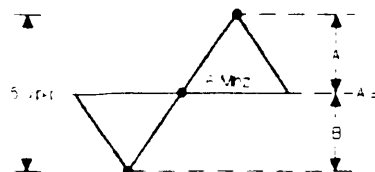

Fig 8.
- 2: Adjust T103 so that sound carrier is centered as in Fig 8.
- 3: Confirm the waveform as in Fig 8.